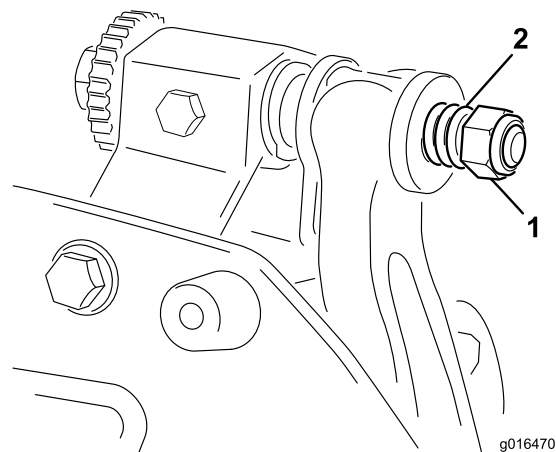

Figure 21
3. Tighten the spring tension nut until the spring is collapsed, then back it off 1/2 turn (Figure 21).